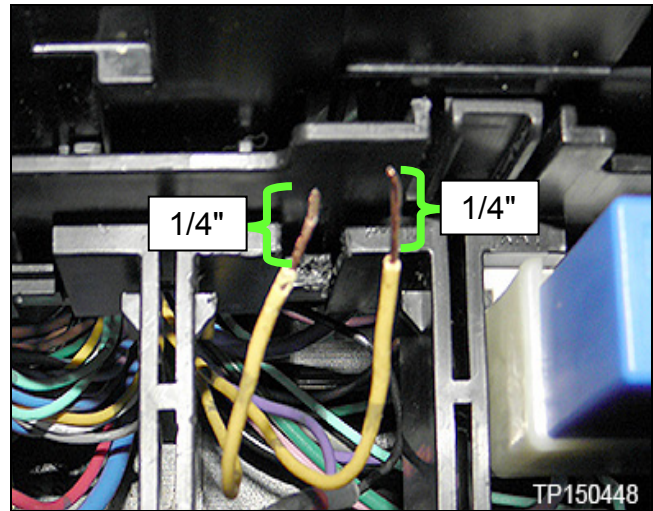

Figure 7
8. Strip approximately 1/4" from the ends of both yellow wires (Figure 7).